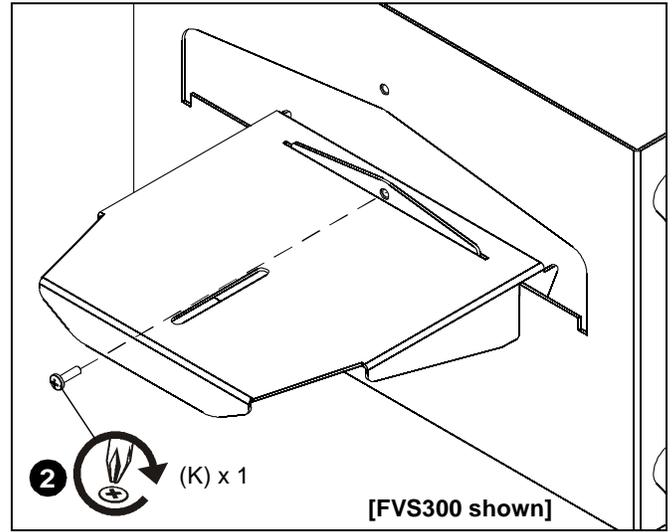

Figure 2
2. Secure shelf using one 10-24 x 5/8" Phillips pan head screw (K). (See Figure 2)